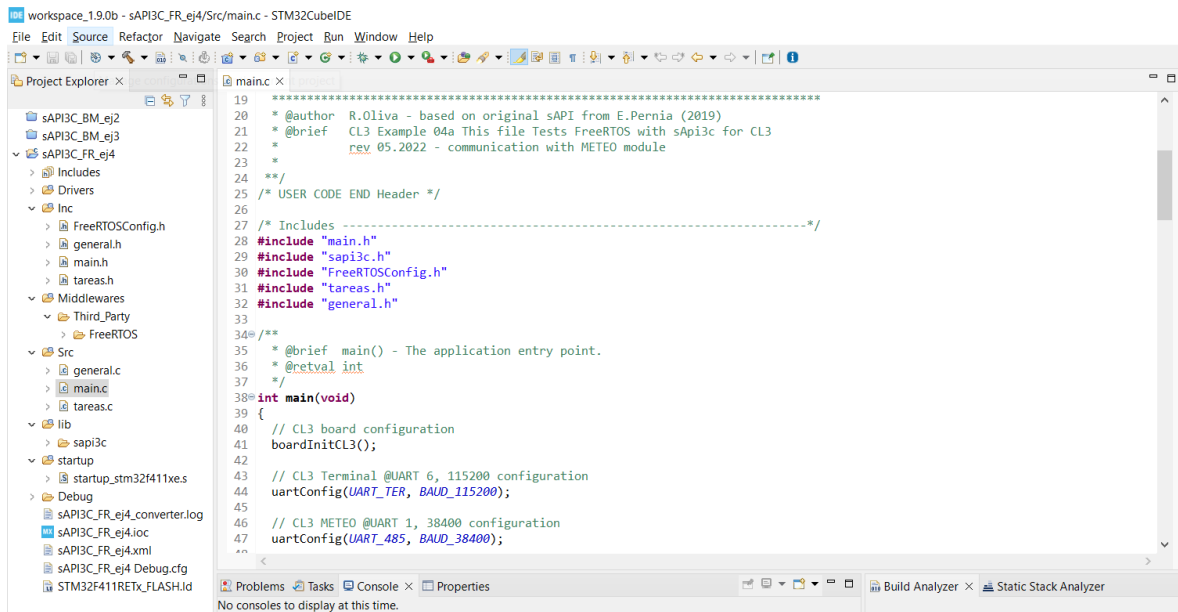
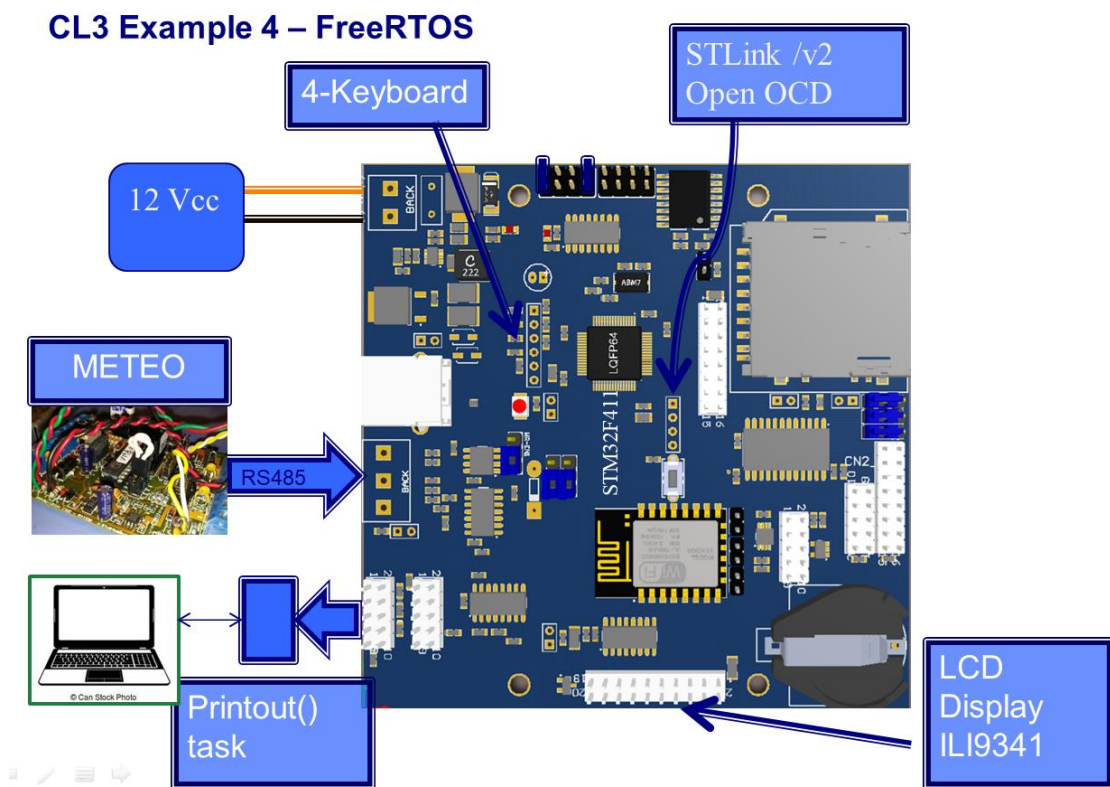

Figure 20 – Example 4 project structure with FreeRTOS as middleware
Figure A.2 – CL3 board connection for Example 4
3.c Example 4 (sAPI3C_FR_ej4) : This program is a more complex application using FreeRTOS as middleware and connecting the CL3 board to a METEO peripheral using an RS485 link (see Figure A.2 in APPENDIX I). The structure of the project is shown in Figure 20, and is considerably longer since it includes more files in the /src and /inc directories. Figure 21 shows the main display output and the internal connection to a METEO board (left) with an RS485 adapter in the middle. The CL3 board is being debugged as in prior examples using the STLink/v2 interface to a USB port on a PC running STM32CubeIDE. A second USB port is used to connect the Terminal port to show the main user interface (Figure 22).